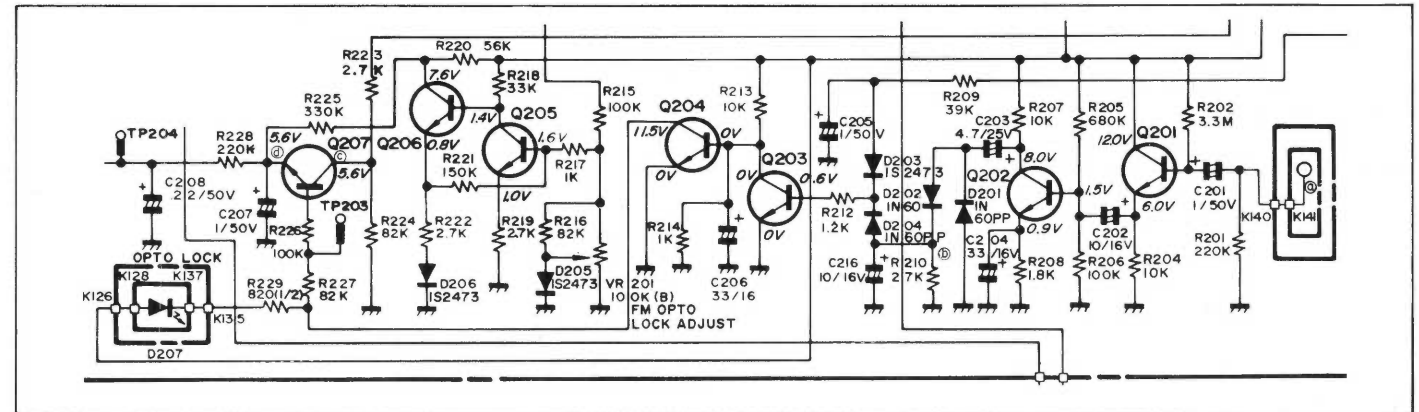

Figure 20 FM TUNING OPTO-LOCK CIRCUIT
3. BEHAVIOR OF OPTO-LOCK CIRCUIT (See Fig. 20)